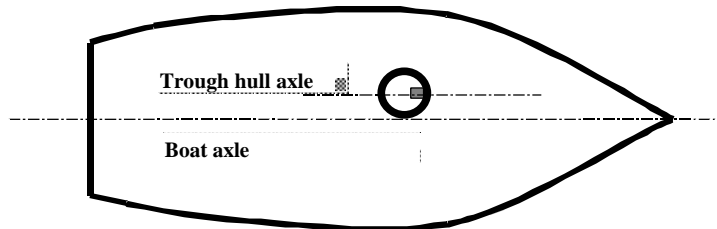

Figure 5
- Then rotate the body of the sensor to position the fool proofing notch as shown in figure 5.